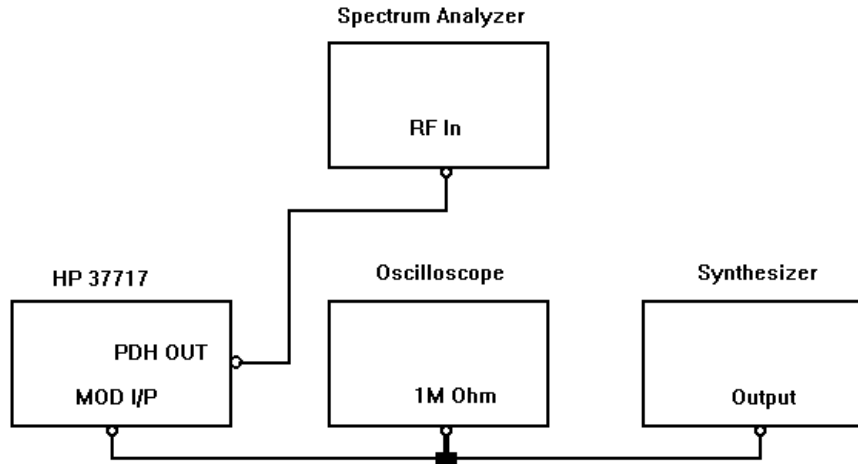

Figure 3-51
- Connect up the equipment as shown in Figure 3-51.